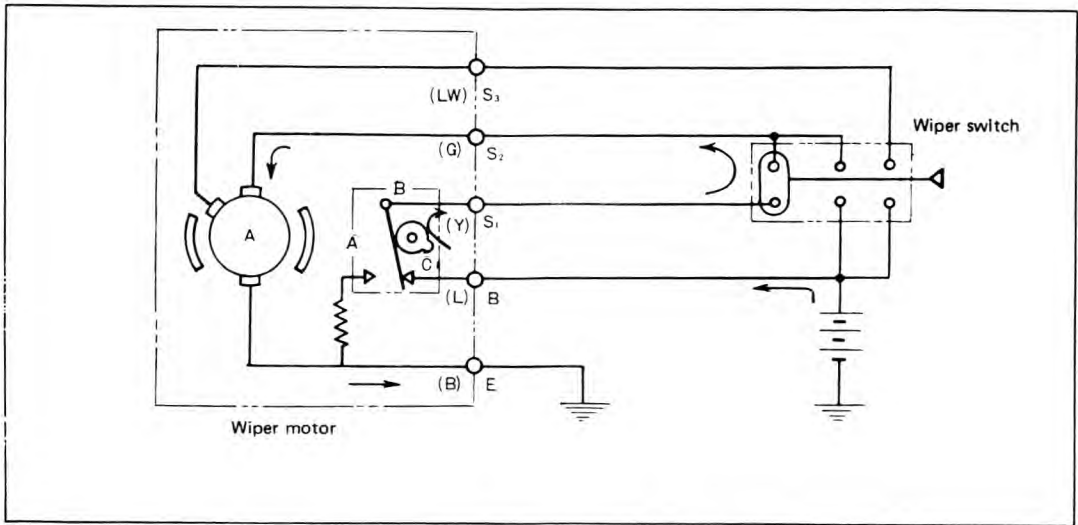

Fig. 12-14 Wiper switch when stopped
- 1 : When contact point (B) and (C) are connected by the automatic stop relay, current flows in the direction of the arrow as shown in Fig. 12-14 and the wiper operates at low speed.